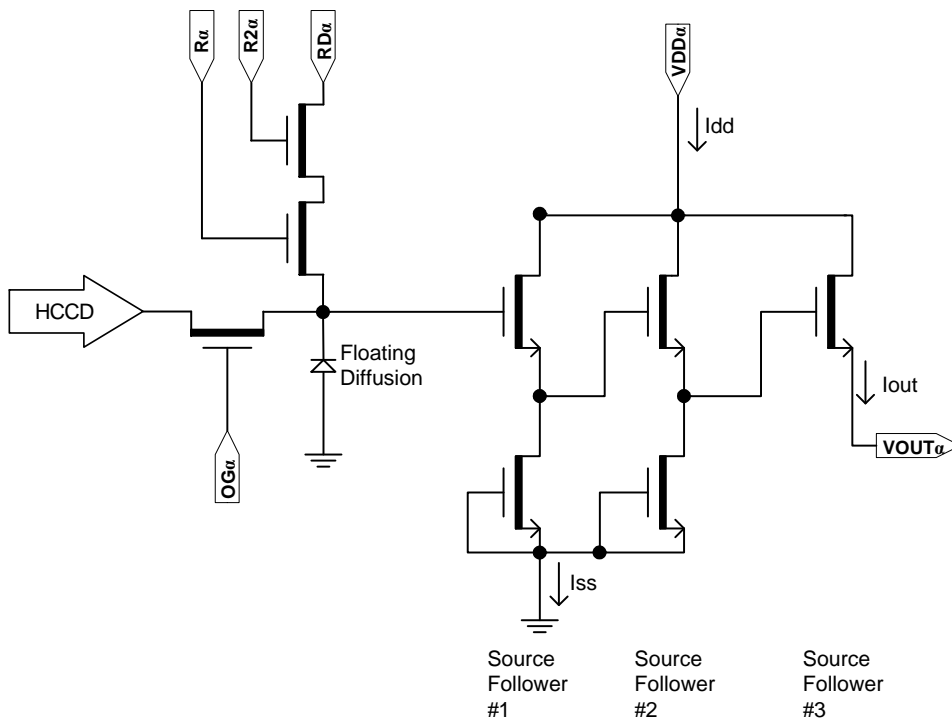

Figure 21. Output Amplifier – Showing Dual Reset Pins
- The maximum DC current is for one output. Idd = Iout + Iss. See Figure 21.